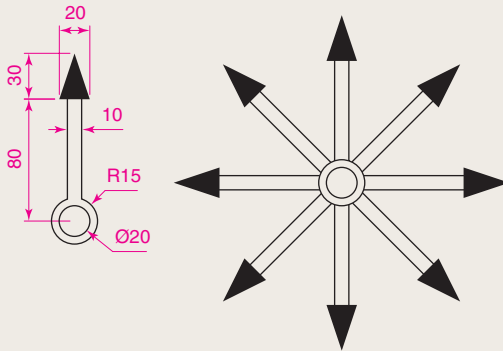

Fig. 5.51 Exercise 5
- Construct the arrow in Fig. 5.51. Array the arrow around the centre of its circle 8 times to produce the right-hand drawing of Fig. 5.51.